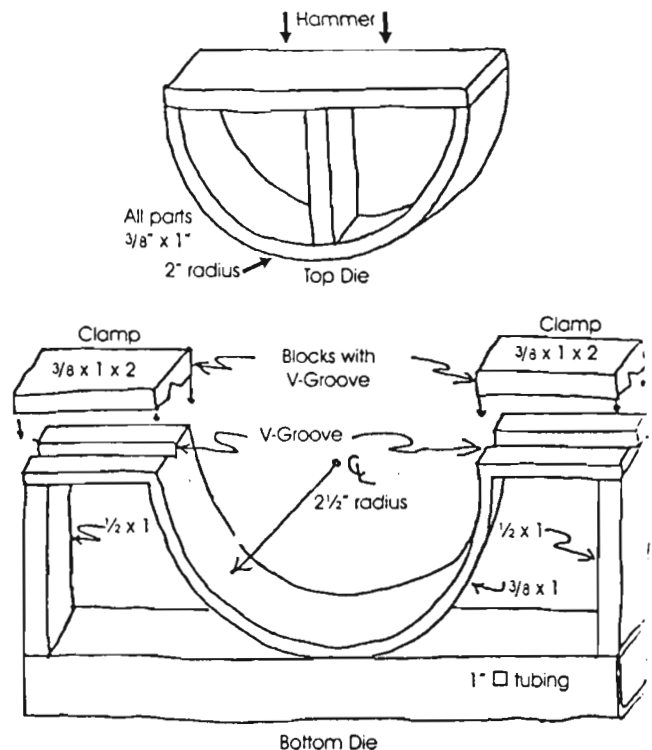
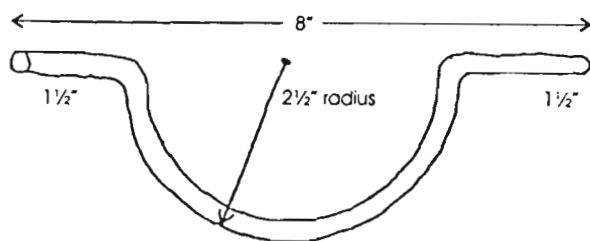

Figure 2.
Figure 3. Part produced by top and bottom die.
4. Using the bottom and top dies shown in Figure 2, make the eight pieces for the outside of the twist. Use about $10\frac{1}{2}$ " of $\frac{1}{4}$ " round. Space it evenly and clamp on both sides in the V-grooves. The clamps should be set to the same pressure to keep the piece even on both ends. Drive the top die down on top of the work to form the half-round section with about $1\frac{1}{2}$ " straight on each end. This process is done cold (Figures 3 & 4).
Since I am a poor artist, it will be similar to Figure 3.